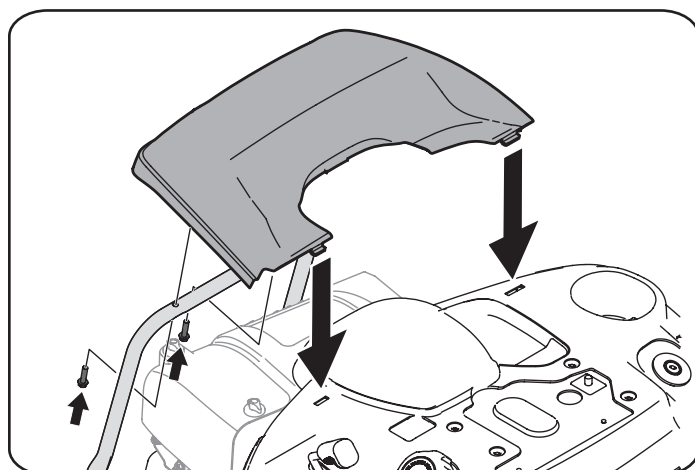

Figure 12
1. Remove the two factory installed hex screws located on the rear engine cover mounting bracket. Retain the screws for later instructions. See Figure 12.
2. Install the rear engine cover by positioning it in place as shown in Figure 12. Tip the engine cover forward to fit it into the slots provided, then rotate it backwards to align the mounting holes.